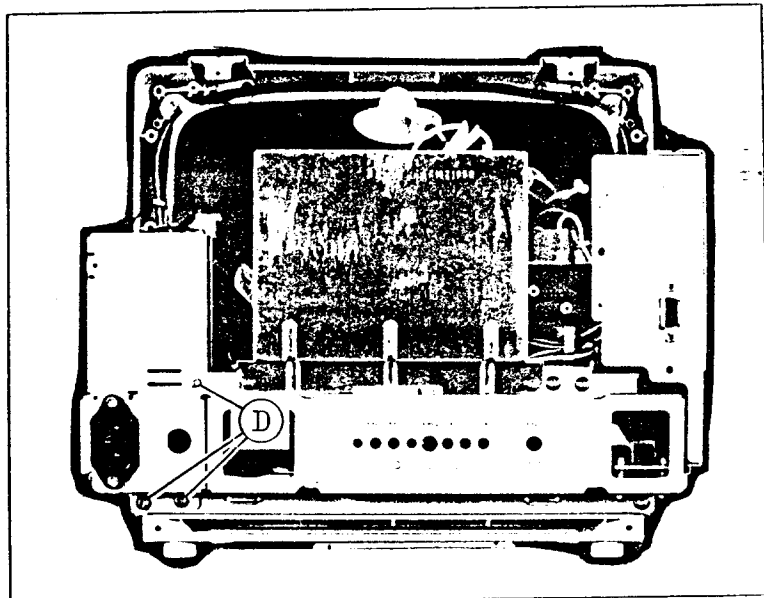

Fig. 4
- (1) Remove the three screws marked (D) shown in Fig. 4.